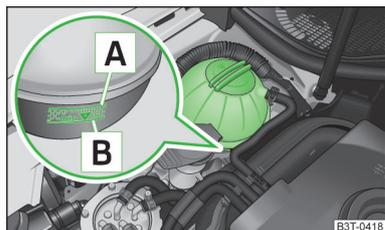

Fig. 167
When refilling, only use the same antifreeze identified on the coolant expansion vessel » Fig. 167 on page 192.
- Do not fill the coolant above the mark **A** » Fig. 167 on page 192.
The coolant expansion reservoir is located in the engine compartment » Fig. 167.
Explanation of graphic » Fig. 167
- › Check the level of coolant in the coolant expansion bottle. » Fig. 167.
If the engine is warm, the test result may be inaccurate. The level can also be above the mark **A** » Fig. 167.